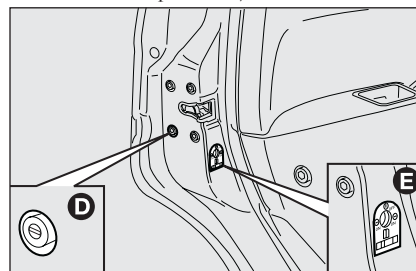

fig. 12
- ❑ operation of the emergency front and rear door lock release system **D**-fig. 12 from the outside for use the electric system is not working (e.g. flat battery);
- ❑ operation of the child lock **E**-fig. 12 on rear doors.